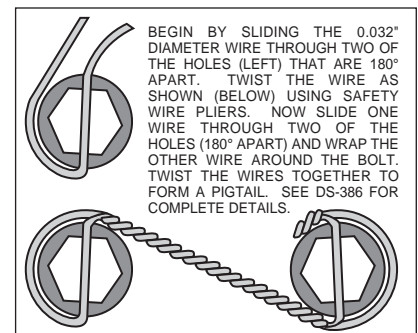

Figure 6. Safety Wire Diagram
- With the slot pointing upward and the mounting ears pointing towards the rear of the vehicle, install the caliper mounting bracket (1) to the housing flange using the stock Original Equipment Manufacturer (OEM) bolts and nuts. Stock OEM hex nuts that retain the bracket (1) should be on the wheel side of the bracket. Apply red *Loctite*® 271 to the stock OEM bolt threads and torque to OEM specifications. **NOTE:** Some brackets act as the bearing retainers, while others help locate the bearing in the axle housing flange. If the stock bearing plates are still on the axle, the caliper mounting brackets (1) should be located between the axle housing flange and the bearing retainer plate. Make sure the heads of the caliper mounting bracket insert nuts are FACING OUTWARD TOWARDS THE WHEEL.
- Bolt the hat (2) to the rotor (3) using washers (4) and bolts (5). Torque bolts (5) to 180 in-lb. Safety wire bolts (5) using standard 0.032 inch diameter stainless steel safety wire as shown in Figure 6. Please refer to Wilwood's data sheet DS-386 (available at www.wilwood.com/Pdf/DataSheets/ds386.pdf) for complete safety wire installation instructions.
- Align the correct hole pattern in the hat (2) with the stud pattern on the axle flange. **NOTE:** Some OEM and after market axles come with stud sizes larger than 0.50" diameter. Verify stud size and have a qualified machine shop drill the hats to the correct size. Slide the hat/rotor assembly (2 and 3) over the wheel studs and against the axle flange face.